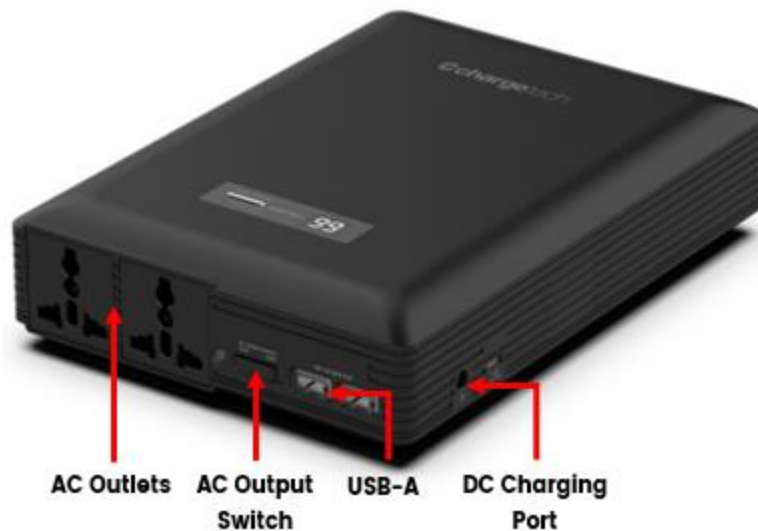

Figure 16: ChargeTech 54K Battery Pack Connections. (Bloodhound G)
- A. **For Bloodhound G**, plug the surge protector into one of the AC outlets on the battery pack, shown in Figures 16 & 17. **Ensure the battery pack is turned OFF.**
- C. Connect the DC charging extension cable to the charging port on the side of the battery pack, shown in Figures 16 & 17.